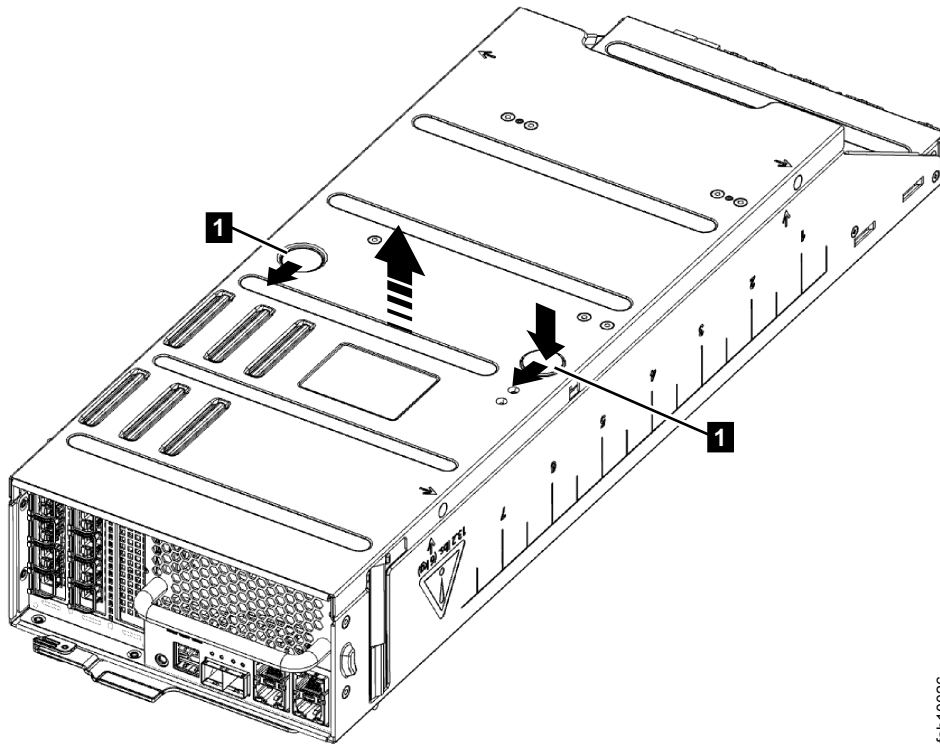

Figure 44. Replacing the canister cover
2. Open the cover of the canister by depressing the recessed, blue touch points on the lid and sliding the lid away from you, as shown in Figure 44 on page 140.